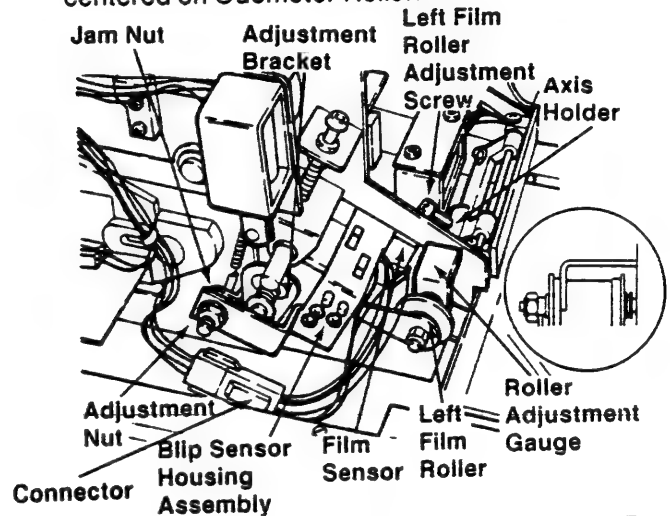
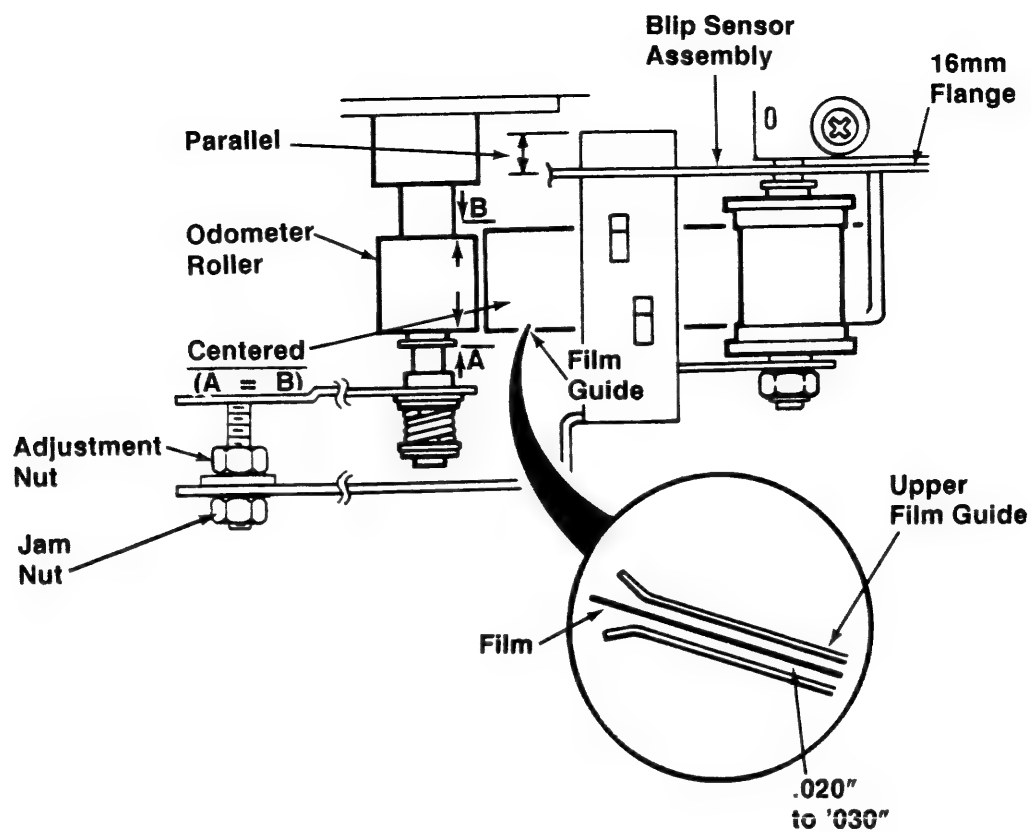

Figure 2-3.2D
Figure 2-3.2E
12. Insert the Left Film Roller Shaft of the Blip Sensor Housing Assembly into the Axis Holder allowing the threaded shaft of the Adjustment Bracket to go through the hole in the Blip Sensor Assembly (Figure 2-3.2D).
13. Place the M-656 Roller Adjustment Gauge (Item 20) against the 16 mm flange of the Left Film Roller (Figure 2-3.2D).
14. Push the Left Film Roller and Roller Adjustment Gauge against the frame and tighten the Adjustment Screw (Figure 2-3.2D).
15. Plug the Connector from the Film Sensor with the Connector for the Film Sensor Wiring Harness disconnected in Step 6 (Figure 2-3.2D).
16. Loosely install the second M4 x 0.7 mm Jam Nut (Item 21) on the outside of the Blip Sensor Assembly (Figure 2-3.2D) and move the Adjustment Nut to the front or rear as required so that the Blip Sensor Assembly and frame of the M-654 are parallel (Figure 2-3.2E see next page) and Film Guide is centered on Odometer Roller.
17. Tighten the Jam Nut against the bracket of the Blip Sensor Assembly and Adjustment Nut (Figure 2-3.2D).